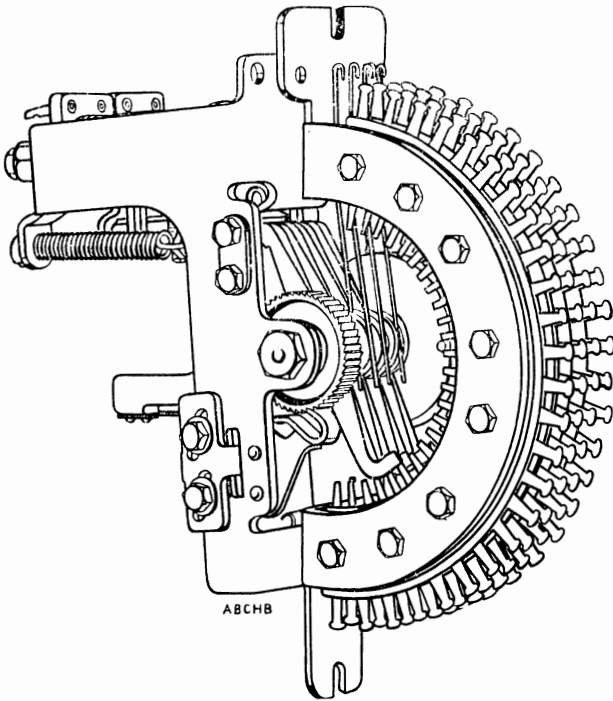

FIG. 5.—REMOVING MECHANISM FROM BANK
5. Removing mechanism from bank.—Set the wipers on the lower half of the bank and withdraw the two top mechanism-securing screws; then grip the mechanism with one hand, remove the bottom securing-screw, and withdraw the mechanism (see Fig. 5).